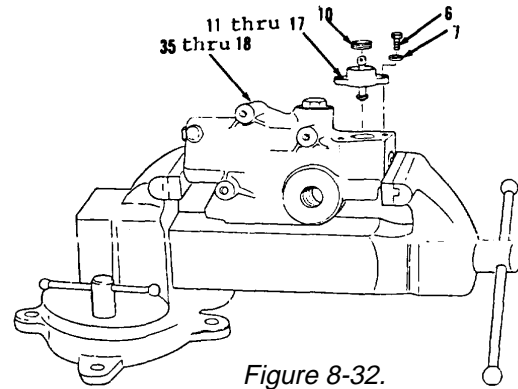
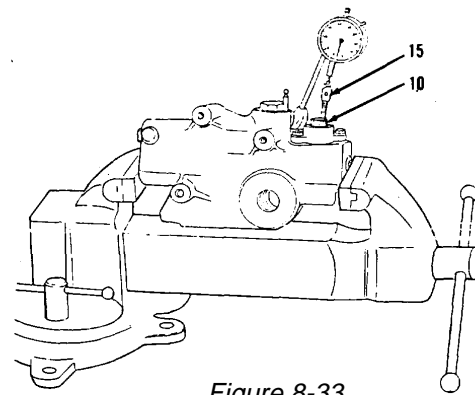
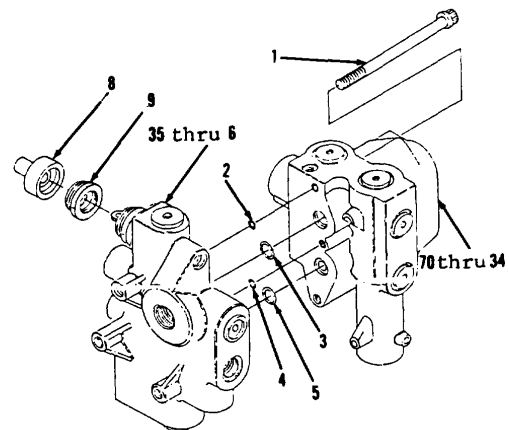

Figure 8-32.
Figure 8-33.
Figure 8-34.
22. Install items 11 thru 17 as an assembly, two washers (7) and bolts (6) in items 35 thru 18 as an assembly (Figure 8-32).
23. Install screw (10).
24. Lift lever (15, Figure 8-33) with a force of 25 lbs. Use a dial indicating scale to measure force.
25. Adjust screw (10). Turn screw (10) in or out until end play of lever is 0.003 to 0.009 inches. Use dial indicator to determine end play.
26. Install nut (9) and boot (8, Figure 8-34).
27. Install new preformed packings (5, 4, 3 and 2), items 35 thru 6 as an assembly with items 70 thru 36 as an assembly and three bolts (1).